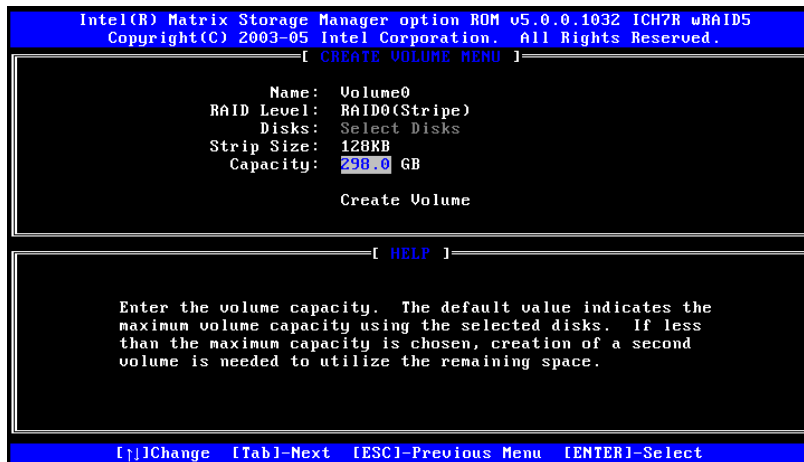

Figure F-5: Enter the Volume Capacity
Step 5: Enter the Volume Capacity. Enter the volume capacity, or press ENTER to accept the default capacity. See Figure F-5.